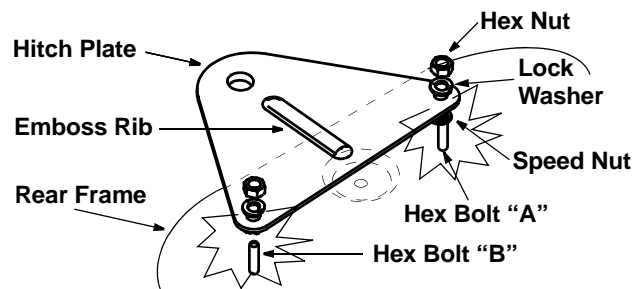

Figure 7
- Pivot hitch plate, align the hole on the hitch plate with the right hand hole on rear frame and insert hex bolt "B". See Figure 7 .